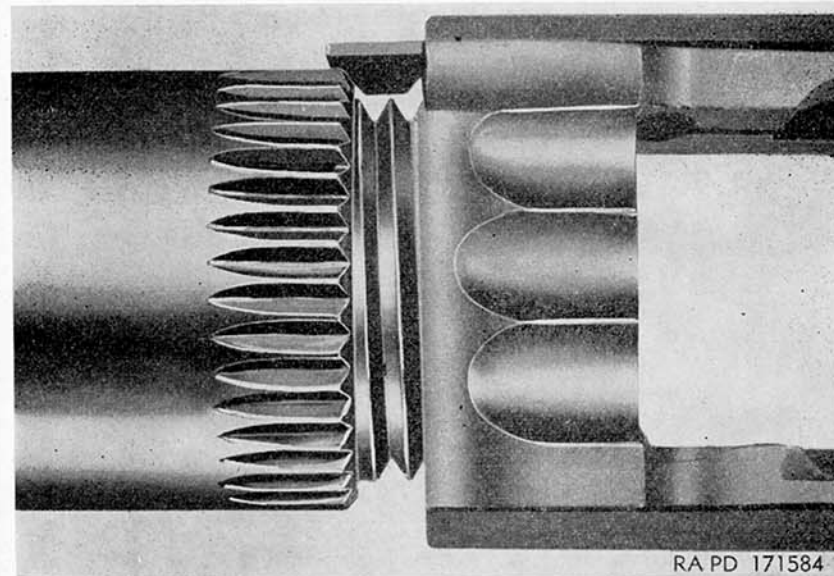
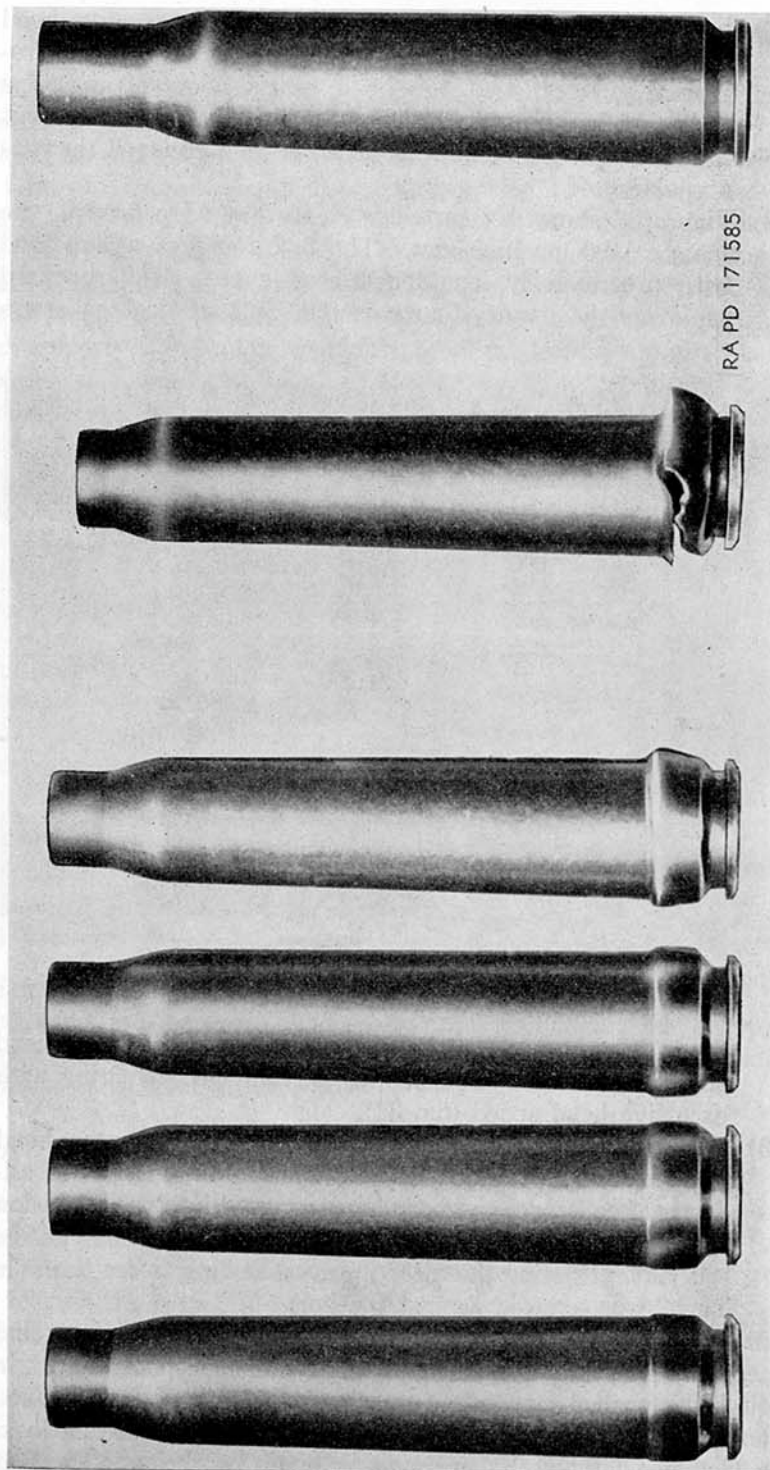

Figure 32. Cal..50 machine gun barrel engaging end of barrel locking spring.
Figure 33. Cases of cal..50 machine gun fired with and without excessive head space.
a. *Excessive Head Space*. A frequent cause of malfunction in cal..50 machine guns is excessive head space. There is a series of notches (serrations) around the back end of the barrel in which a spring fits for locking the barrel into place. The spring sometimes sticks on the end of the barrel before slipping into the notches and therefore leaves too much head space. TM 9-1225 gives instructions for adjusting head space. When positioning the barrel, always check to see that the notches are actually on the spring instead of merely against its end, as in figure 32.
- (1) In one reported case of malfunction due to excessive head space, the barrel had been working loose and had thus progressively lengthened the head space. Several cartridge cases that had been fired immediately preceding the accident round were ruptured; but as no separation occurred the case was extracted.
- (2) Figure 33 shows six cartridge cases that were fired in the same cal..50 machine gun. The first four cases were fired with progressively lengthened head space. The ruptured case was the twenty-fourth round, and the last case was